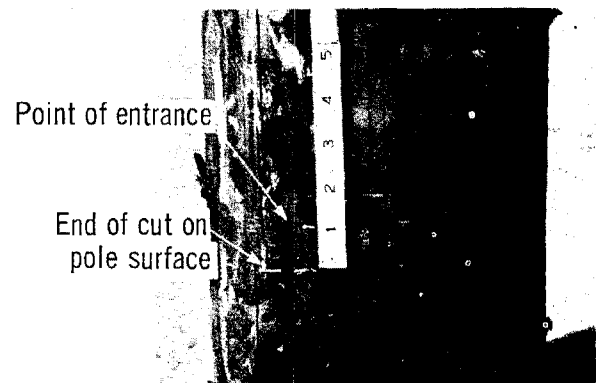

Fig. 16 — Measuring Gaff Cut
5. A gaff, which is correctly shaped and is sharp, will cut into the pole and hold in a distance of 2 inches or less. Measure the cut from point the gaff enters the pole to bottom of cut at surface of pole as indicated in Fig. 16.